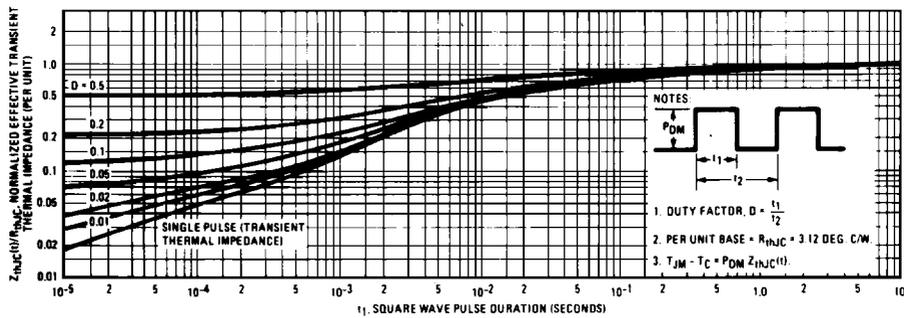

Fig. 5 - Maximum Effective Transient Thermal Impedance, Junction-to-Case Vs. Pulse Duration
- Repetitive rating: Pulse width limited by maximum junction temperature. See Transient Thermal Impedance Curve (Figure 5).
Impedance Curve (Figure 5)